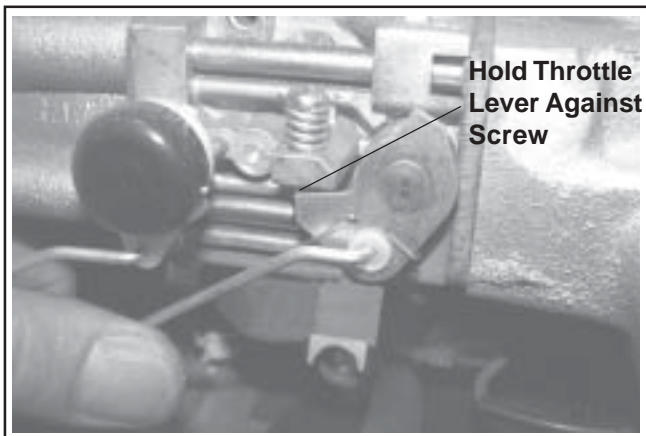

Figure 5-15. Holding Throttle Lever Against Idle Stop Screw (Two-Barrel Carburetor).
2. Move the throttle control to the idle position. Hold the governor lever away from the carburetor, or hold the throttle lever so it is tight against the idle speed adjusting screw, to negate the governor activation. See Figure 5-15. Check the speed with a tachometer and adjust it to 1500 RPM.